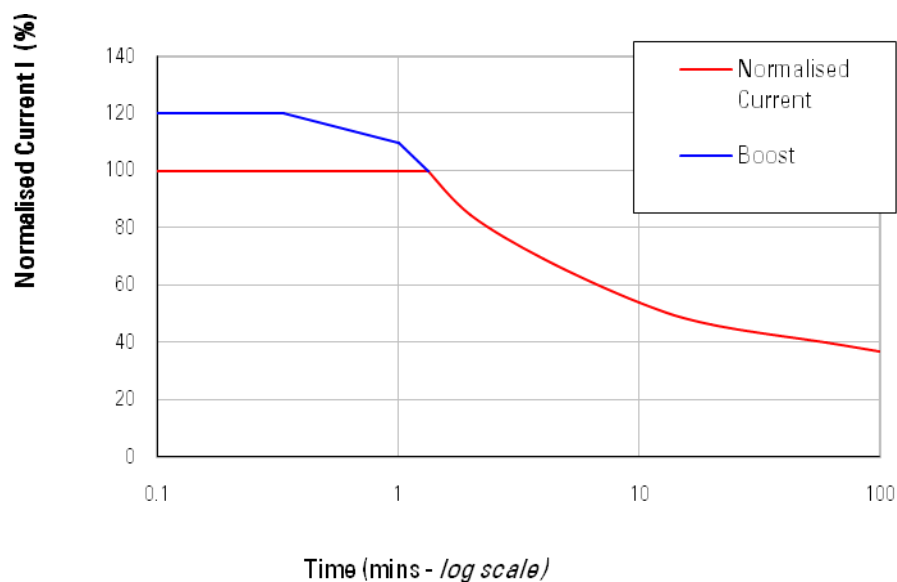

Figure 11 Output current available for various durations of sustained current demand
Output current:	Reduced automatically from peak to continuous rating depending on the time a peak load is applied to the controller (see Figure 11 on page4-4). Reduced automatically if operated outside normal temperature range.
*2 minute rating (lower ratings are possible for longer periods; see example in Figure 11)